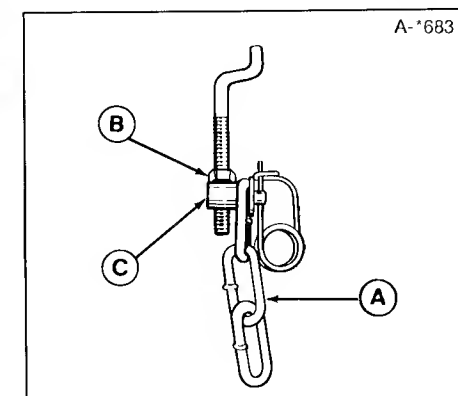

Figure 40. Lift Assembly - Large Lift Lever
4. To adjust, disconnect trunnion (C, figure 40) from lift chain. Loosen the nut, and turn trunnion to raise or lower mower. Tighten nut when measurement is correct.